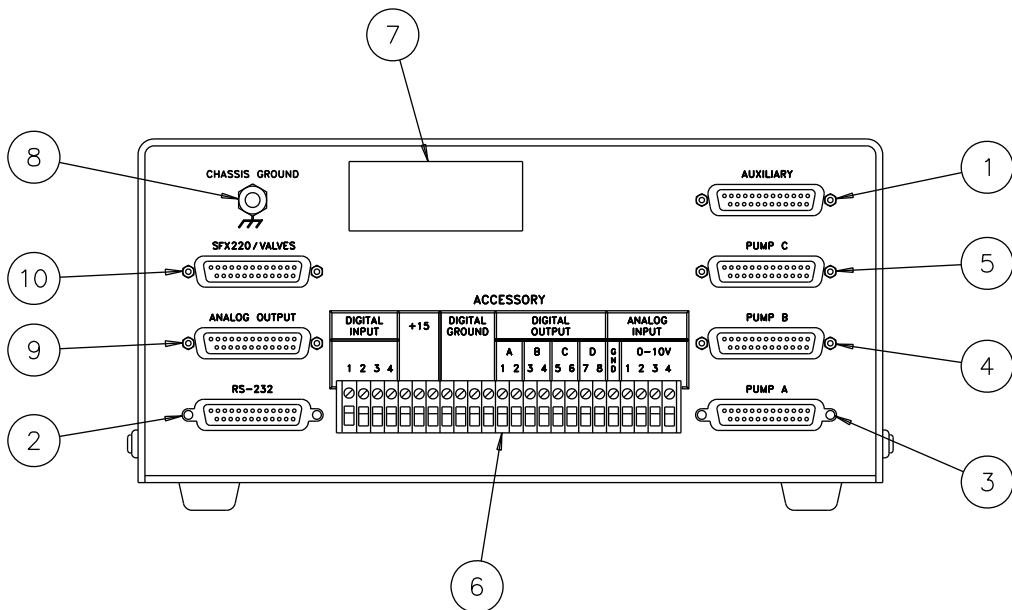

Figure 1-6 Pump controller rear panel connectors
The rear panel of the pump controller contains several input and output connectors, explained in Table 1-10, and shown in Figure 1-6.
2. Connect the control cable (which originates from the first or only pump rear panel) to the PUMP A connector on the rear panel of the controller (Figure 1-6), and tighten the thumbscrews. This cable must be plugged into the PUMP A connector.